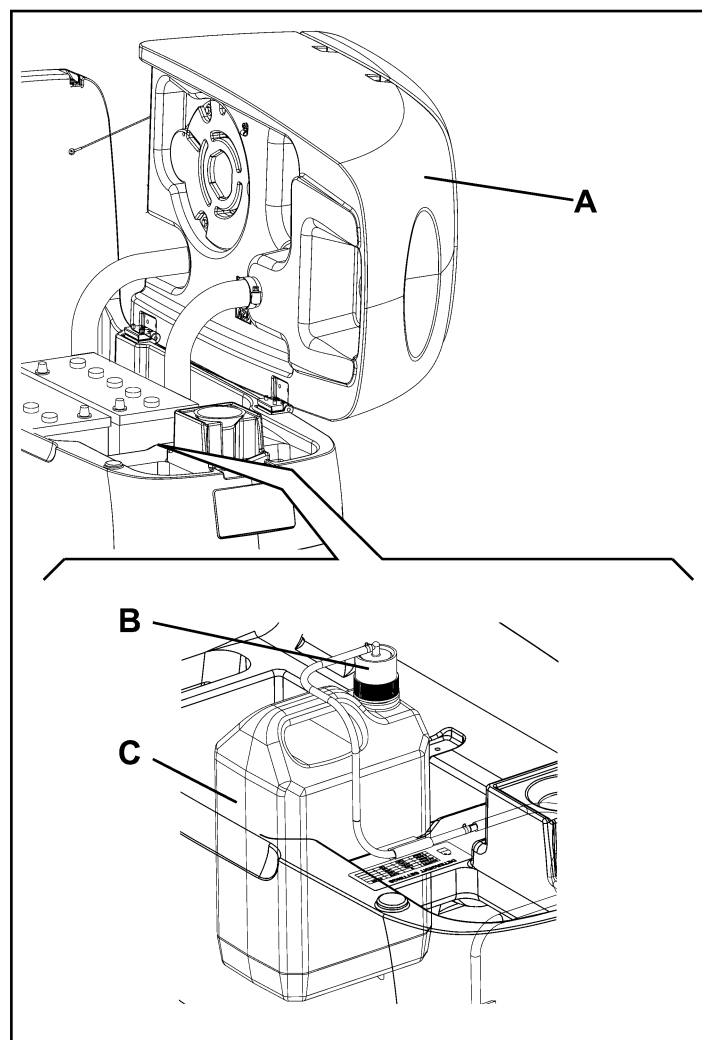

Figure 15
1. Open the cover (E) and check that the recovery water tank (F) is empty, otherwise empty it with the drain hose (G).
2. Carefully lift the tank (A, Fig. 15).
3. Open the cap (B).
4. Replace or fill the jug (C) with any standard gallon container of detergent suitable for the work to be performed (highly concentrated detergents). Do not fill the detergent tank completely, leave a few centimeters from the edge.